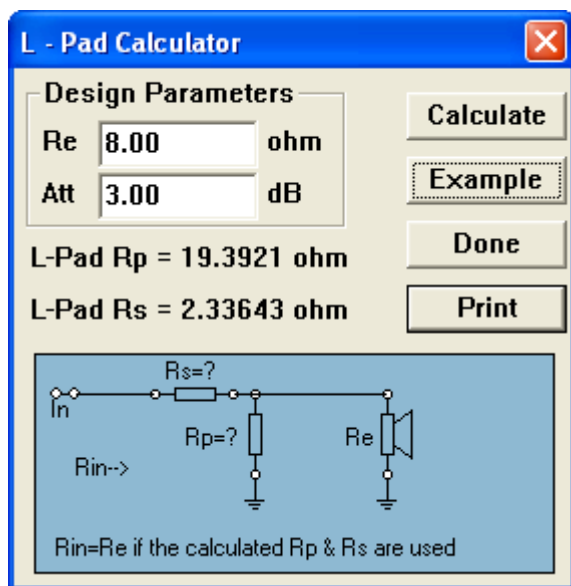

Figure 8.25 L-pad network.
The 'Crossover' tool has four handy built-in calculators for quick evaluation of four simple elements of the compensation networks shown in Fig 8.25 - 8.28.
1. L-Pad Calculator (see Fig 8.25)